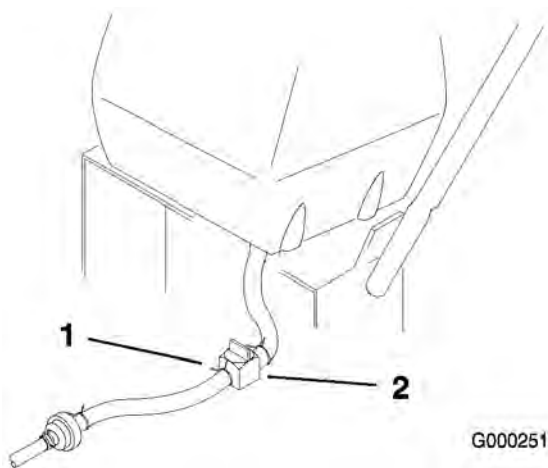

Figure 33
2. Close the fuel shut off valve at the fuel tank (Figure 33).
3. Squeeze the ends of the hose clamp together and slide it up the fuel line away from fuel filter (Figure 33).
- Pull the fuel line off the fuel filter (Figure 33). Open the fuel shut off valve and allow the gasoline to drain into a gas can or drain pan.
- Close fuel shut off valve at the fuel tank (Figure 33).
- Open fuel shut off valve at fuel tank (Figure 33).